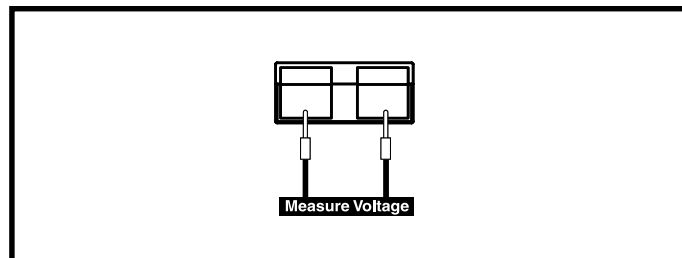
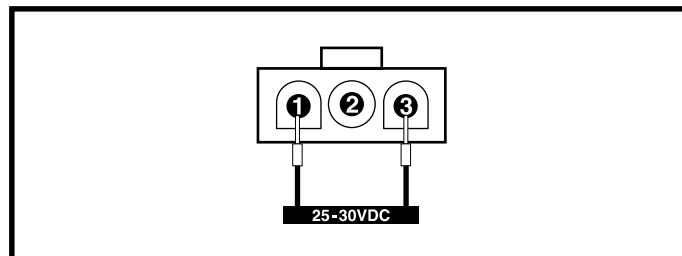
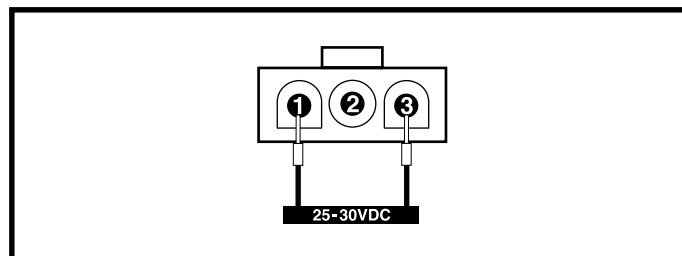

Figure 13. Connector 2a
Figure 14. Connector 5a
Figure 15. Connector 6b
7. Measure voltage across pin 1 and pin 2 of connector 2a. **See figure 13.** Compare this voltage to the voltage measurement in step 1.
- *If your multimeter indicates a different voltage (by at least 0.2VDC), then replace the VSI controller (1) and retest the system.*
- *If your multimeter indicates a different voltage (by at least 0.2VDC), then replace the power interface harness (2) and retest the system.*
- *If the ammeter reading did not increase when the battery charger was plugged into the electrical outlet but the battery voltage increased, then replace the ammeter (4) and retest the system.*
11. Measure voltage across pin 1 and pin 3 of connector 5a. **See figure 14.**
- *If your multimeter indicates between 25 — 30VDC, then replace the VSI controller (1) and retest the system.*
13. With the battery charger still plugged into the electrical outlet, measure voltage across pin 1 and pin 3 of connector 6b. **See figure 15.**